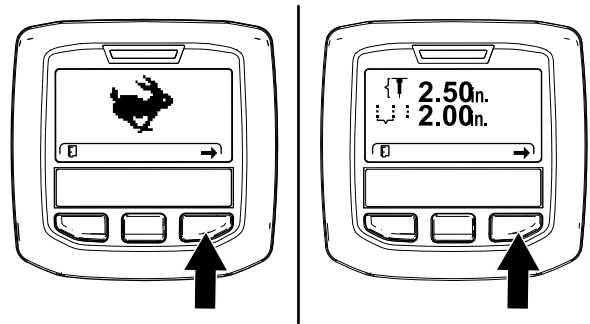

Figure 45
**Note:** The TRANSPORT mode screen or the AERATE mode screen displays (Figure 45).